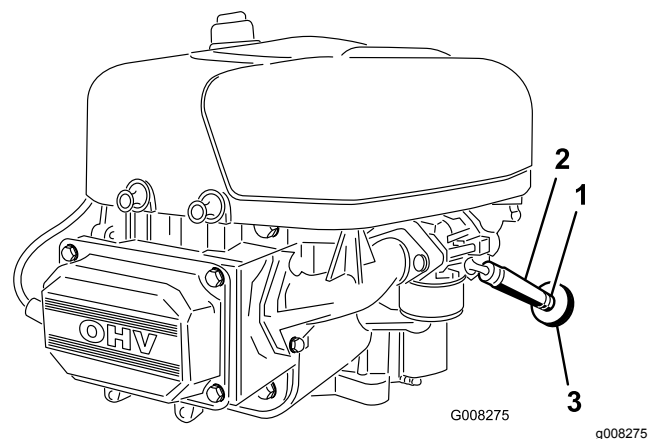

Figure 29
7. Loosen the hose clamp at the fuel filter and slide it up the fuel line away from the fuel filter (Figure 29).
8. Pull the fuel line off the fuel filter (Figure 29).
11. Slide the hose clamp close to the fuel filter to secure the fuel line (Figure 29).
The best time to replace the fuel filter (Figure 29) is when the fuel tank is empty. Never install a dirty fuel filter after it has been removed from the fuel line.